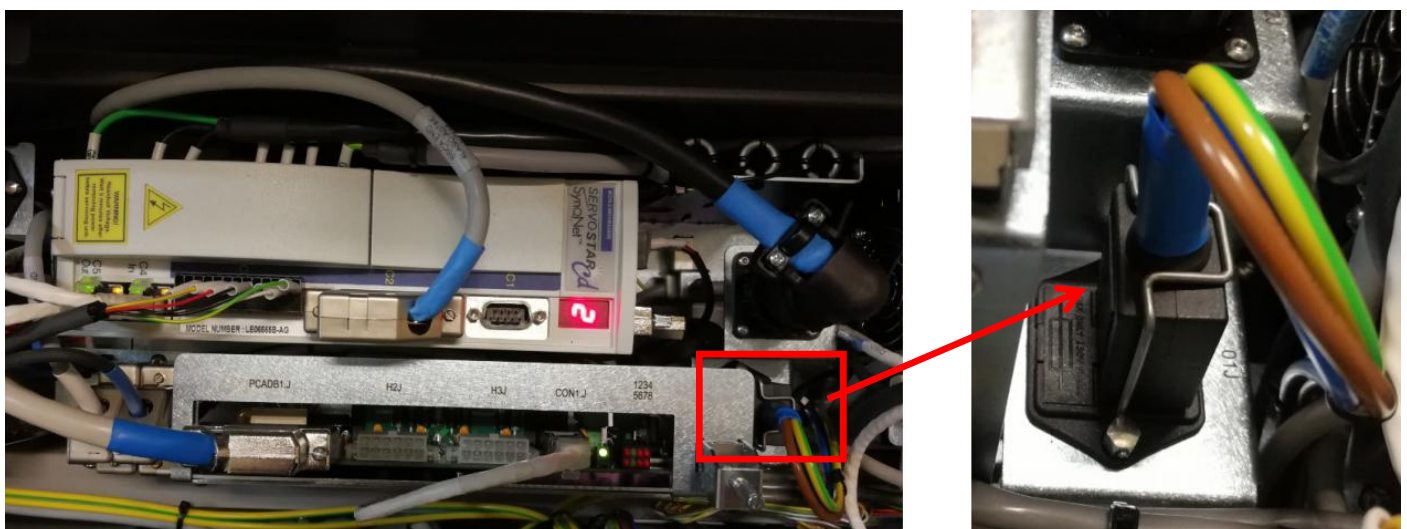

Figure 30
35. Connect Power Connector at 01J as below Figure 30.